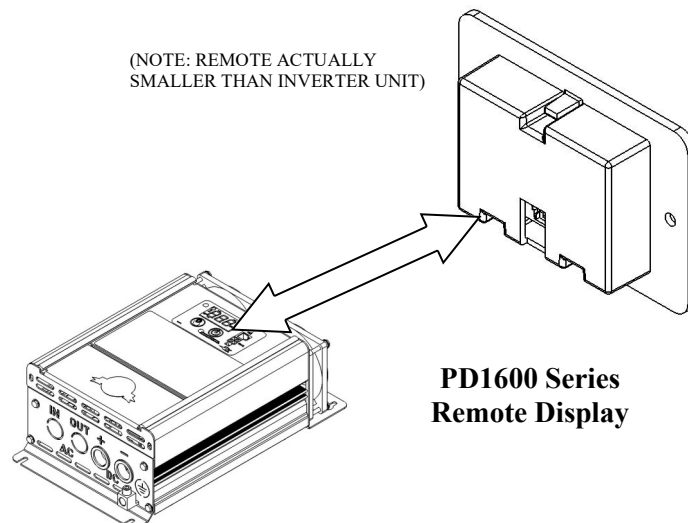

Figure 2 Connecting communication cable
Plug the connector plug into the port on the top of the inverter and the back of the remote control using the supplied communication cable (see Figure 2). Failure to use a communication cable provided by PDI may result in damage to the remote display.
7. Connect the communication cable to the RJ9 port on the inverter and the remote control (see Figure 2).